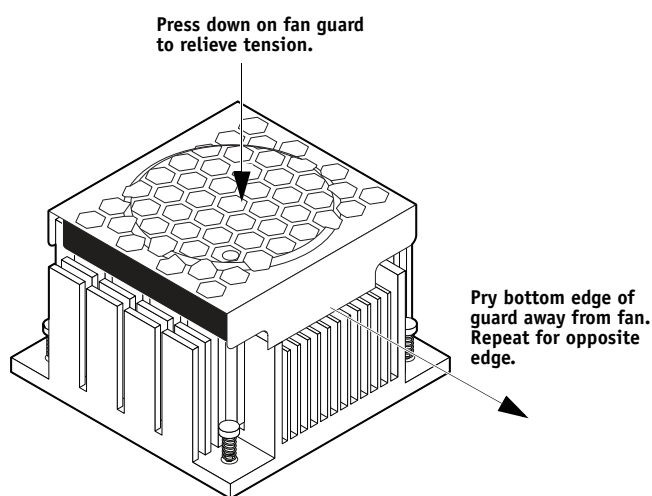

FIGURE 26: Removing/replacing the CPU fan guard
7. If you are removing the CPU cooling assembly in order to replace it with a new one, remove the fan guard from the CPU fan (see Figure 26).